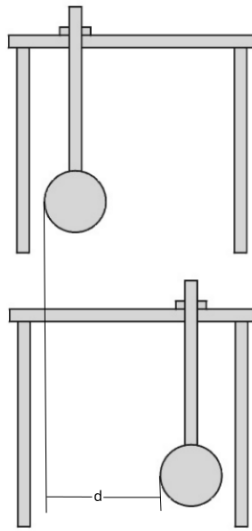

Figure 10.2: Programming - Cross Travel
**Programming the Saw - Cross Travel Details** Figure 10.2 is a simplistic diagram to show the dimensions that comprise the cross travel axis travel limits. The *Cross Travel Axis*, during Automatic sequence, will travel to *Forward Position* then back to *Home* while the sawing action is being performed on the stone block. The *Forward Position* is the position where the saw blade will clear the stone block. The Maximum Speed of the *Cross Travel Axis* is determined by the *Cut Depth* the Operator has programmed and a formula based upon how much material the saw blade and segments can remove at nominal motor RPM. The speed through the stone, and the load on the saw blade, is further affected by adjusting the *Motor Current Setting*, which is directly tied to the PID process variable. This allows the Operator to make adjustments for stone hardness for example. There is also a programmable speed override which can be enabled which is intended to be used by the Operator when new segments have been installed and the blade needs to be run in at a low speed. This setting is password protected with a time limit on entry. When in automatic and running a program, the *Cross Travel Axis* will try to travel at the programmed speed as determined by the calculation that uses the *Cut Depth Setting*, also while trying to maintain the *Motor Current Setting*, and the *Speed Override* as the limit set by the Operator, will take precedence over all speed control while it is enabled.